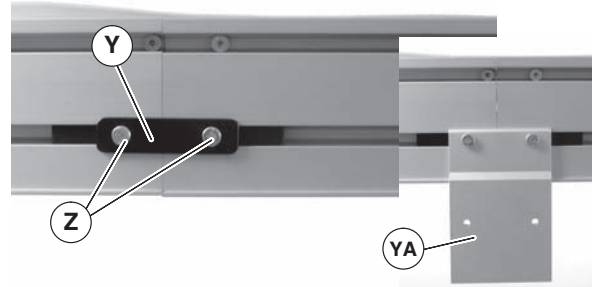

Figure 9
- Join additional conveyor sections if necessary and install connector brackets (Figure 9, item Y) or connector/mount brackets (YA) and screws (Z) on both sides as indicated. Tighten screws to 60 in-lb (7 Nm).